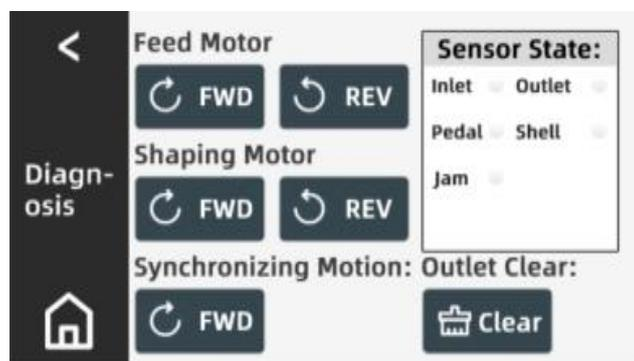

Figure 5.6.1
- 1) Click  on the **Setting** interface to enter the **Diagnosis** interface (Figure 5.6.1);